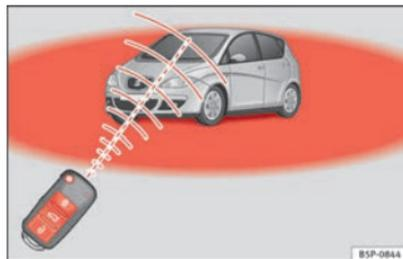

Fig. 60 Remote control range of action using radio-frequency signals.
- The radio frequency remote control functions only when you are in range ⇒ Fig. 60 (red area).
- If the vehicle is unlocked using the ① button, it will lock again automatically if any of the doors or the rear lid are not opened within 30 seconds after unlocking it. This function prevents the vehicle from remaining unlocked if the unlock button is pressed by mistake.